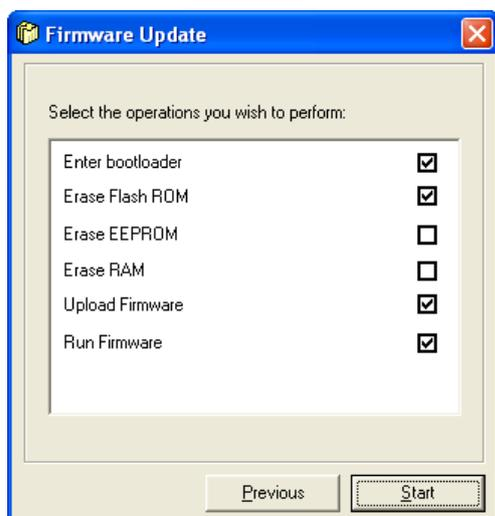

Figure 38 Operations Window.
9. Make sure that all the boxes as shown in Figure 38 are checked.